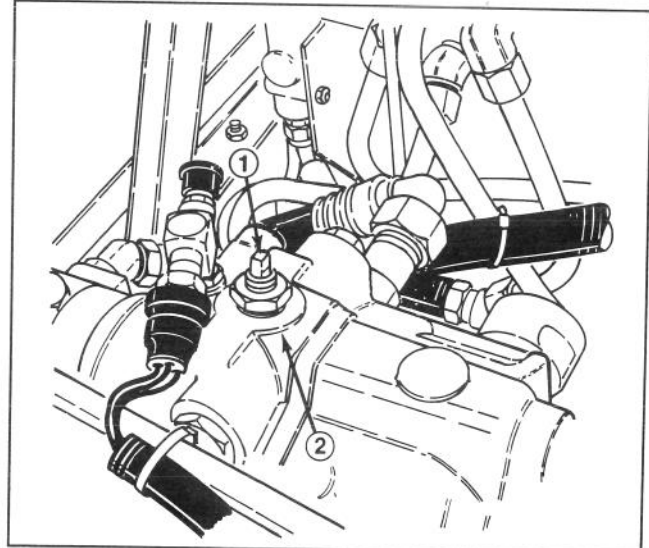

Figure 20
1. Lift seat and remove front panel. Rotate by-pass valve 90 degrees (Fig. 20). Opening the valve opens an internal passage in the traction pump, thereby by-passing hydraulic oil. Because oil is by-passed, traction unit can be moved without damaging the hydraulic system.